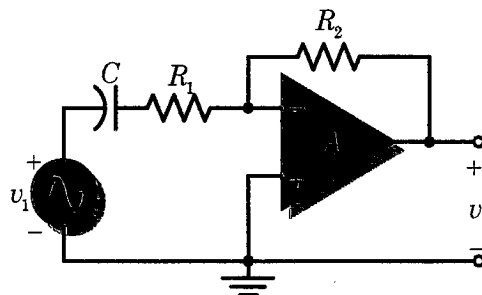

Figure Q4 (a)
- (a) Consider the active filter network shown in Figure Q4 (a).